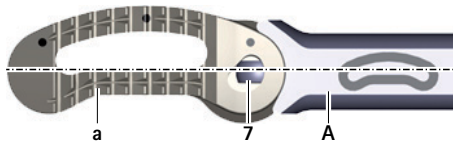

Fig. 8 Implant at 0° position
- Hold the trial implant D at 0° position on the insertion instrument A, see Fig. 8.
- Hold the implant at 0° position, see Fig. 8.